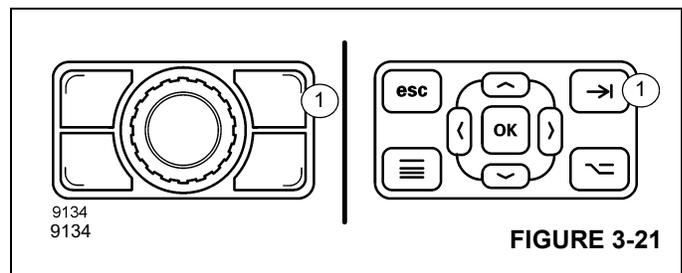

FIGURE 3-21
2. Press the upper right button (1), (Figure 3-21) on the jog dial panel or the control panel.